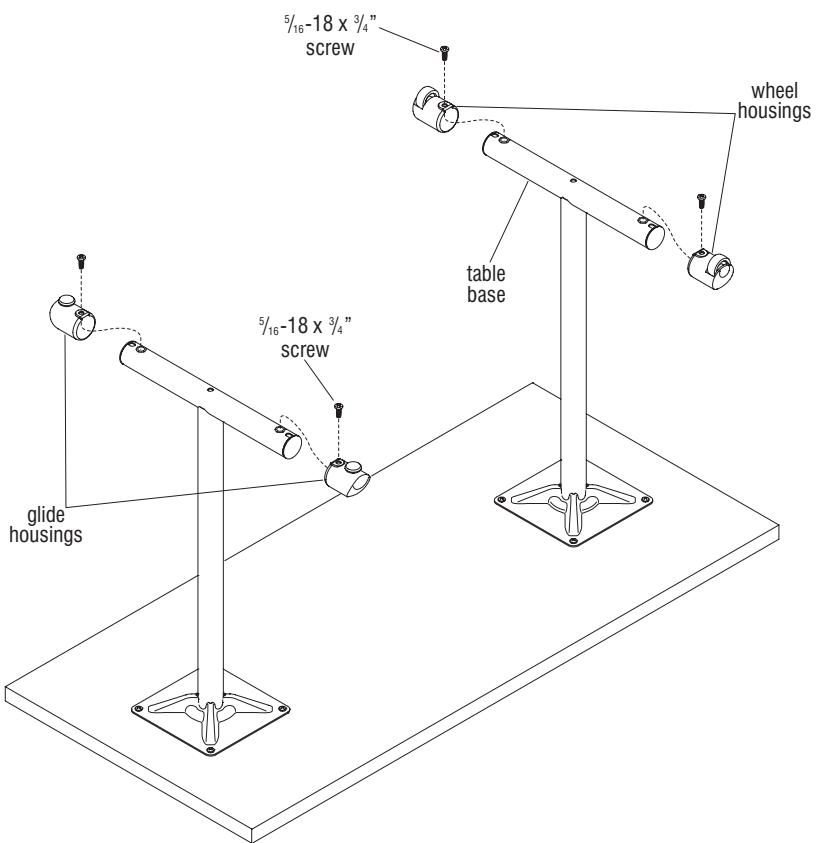

Figure 1
- $5/16\text{-}18 \times 3/4"$ screws (4)
- Wheel Housings (2)
- Glide Housings (2)
3. As illustrated, slide two wheel housings onto one base and two glide housings onto the opposite base. Take care to align the mounting holes at the bottom of each housing with the previous glide holes at the bottom of each base (Figure 1).
4. Secure all four housings to the bottom of the bases using four $5/16\text{-}18 \times 3/4"$ screws provided, not to exceed 50 in/lbs of torque (Figure 1).